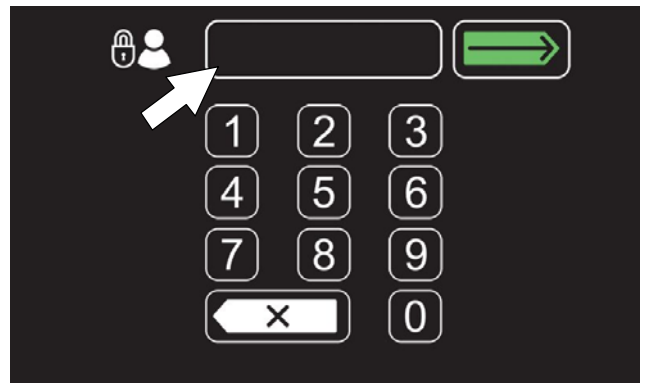

FIG. 174
6. Now at machine start up, the login screen will display (Figure 174). The user will need to enter their assigned login code to operator machine.